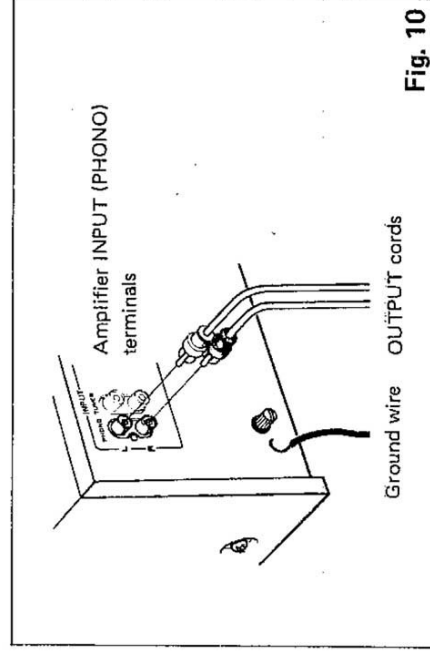

Fig. 10
4. **CORD AND GROUND WIRE CONNECTIONS (Fig. 10)**